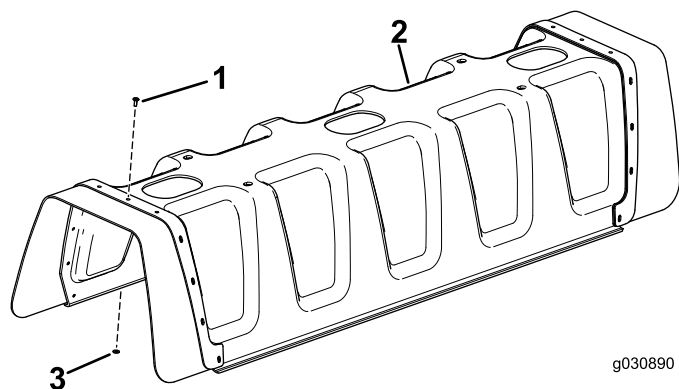

Figure 4
- Install 11 pop rivets (3/16 x 1/2 inch) and washers (3/16 inch) to the center-boom cover (Figure 4).